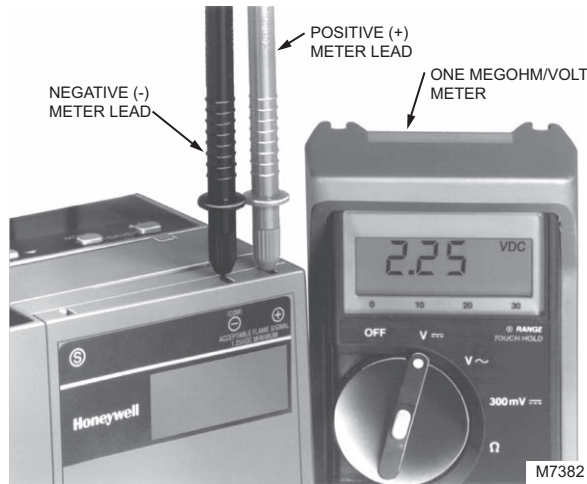

Fig. 17. Flame signal measurement.
Measure the flame signal at the appropriate times defined in the following checkout tests. Read the flame signal volts dc at the flame amplifier test jacks + and - (Com). See Fig. 17 and Table 12.
3. Insert the positive (red) probe into the + jack of the flame amplifier and the negative (black) probe into the - (Com) jack of the flame amplifier (see Fig. 17).